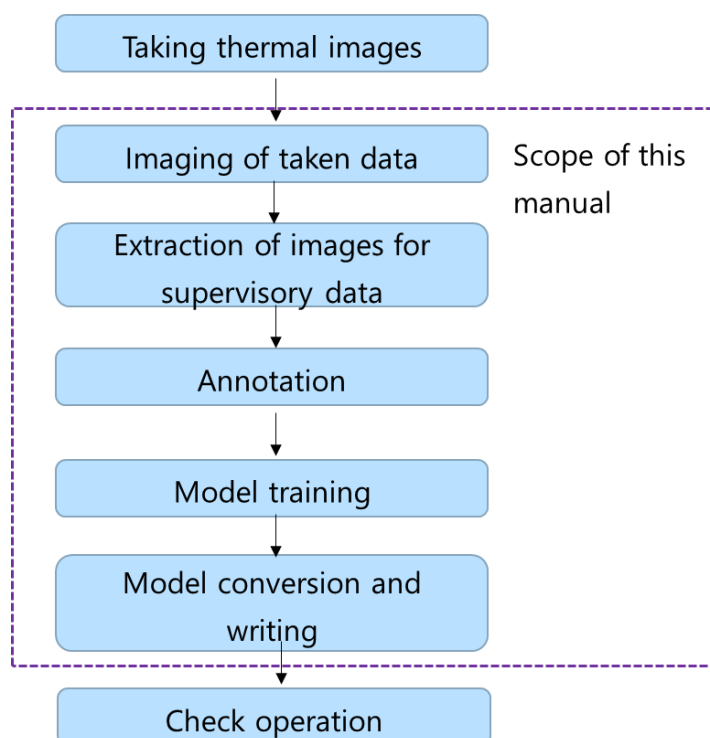

Fig. 1.2 Flow of AI model creation
Figure 1.2 shows the flow for creating an AI model from thermal images. It consists of five processes: (1) Imaging of taken data (2) Extraction of images for supervisor data (3) annotation (4) model training, and (5) model conversion and writing, which are explained in this manual. For taking thermal images, we provide a demo kit, so please refer to the included manual.